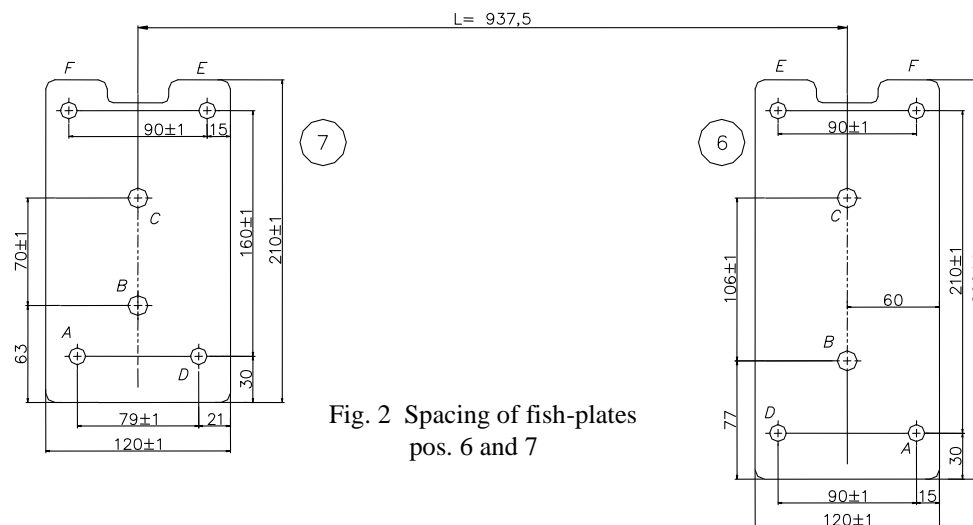

Fig. 2 Spacing of fish-plates pos. 6 and 7
- Inside trunk, on the left and right side put fish-plates 6 and 7 (see figure 2). Next fix it through hole pos. A using bolts M8x30mm (pos. 13) in points originally threaded (remove plastic plugs).
- Arrange fish-plates in accordance to dimensions from figure 2. Next mark points of rest holes. Then drill marked points straight through: bit $\varnothing 12,5\text{mm}$ holes pos. B and C, bit $\varnothing 8,5\text{mm}$ holes pos. D, E and F.
- Disassemble both fish-plates. Made holes pos. B and C enlarge from trunk side using bit $\varnothing 25,5\text{mm}$; to enlarged holes put distance sleeves L=62mm (pos. 8).
- Reassemble fish-plates again and in holes pos. B and C put bolts M12x100mm (pos. 10) and in rest of holes put bolts M8x35mm (pos. 13). Bolts M8 fix to the floor using big washers $\varnothing 25 \times \varnothing 9 \times 2\text{mm}$ (pos. 16) and spring washers.
- Underneath the car put side brackets (pos. 4 and 5) on bolts M12 protruding from the trunk and fix it loosely.
- Fix handle of the muffler through hole pos. H using bolt M8x60mm (pos. 12), use distance sleeve L=30mm (pos. 9).
- Between assembled brackets (pos. 4 and 5) put main bar of the towing hitch (pos. 1) and fix it using bolts M12x35mm (pos. 11).
- Fix body of the automat and place tow-ball according to supplied instruction. Note! Remember to place socket plate (pos. 3) as shown on the drawing 1.